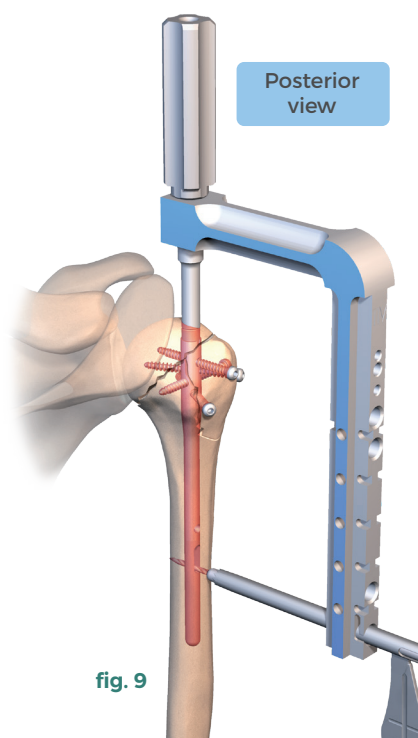

fig. 9
- Drill with the D3.1 mm bit (**ref. 270 821**) (**fig.9**) and read the screw length directly on the drill bit.